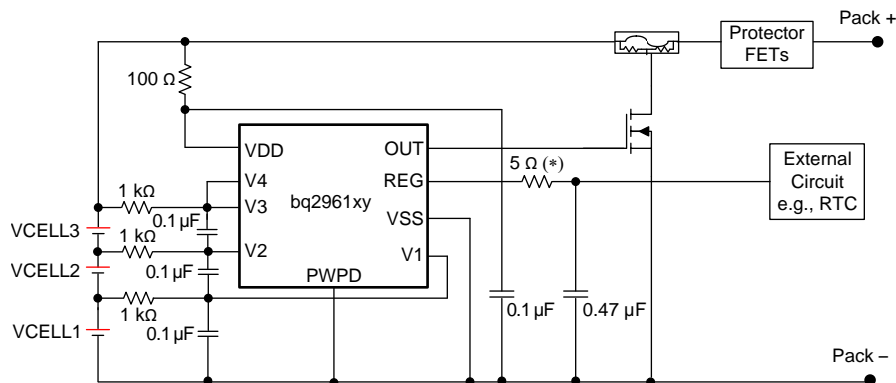
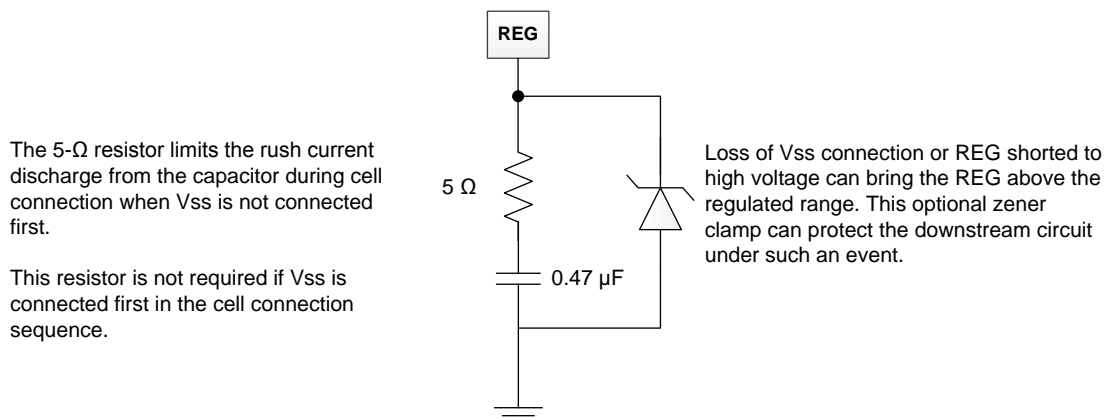

Figure 17. 3-Series bq2961 Schematic (also apply to bq2962)
Figure 18. 5-V Zener Diode
1. If VSS pin cannot be connected first, it is required to add a resistor of a minimum of 5 ohms to a maximum of 10 ohms (a 5-ohm resistor is used in the reference schematic, Figure 17) in series with the REG capacitor. When VSS is floating, the REG capacitor always charges up to the VDD voltage. When VSS is finally connected, the REG capacitor will be discharged. Adding a small resistor in series reduces the current strength and avoids any potential damage to the REG pin. The 5-ohm resistor can be placed in series with the REG connect circuit (as shown in Figure 17) or in series of the REG capacitor (as shown in Figure 18). Placing the resistor in series with the REG circuit results in a small drop of VREG (for example: max loading of 1 mA with a 5-ohm resistor will drop 5 mV on VREG), but such a connection can protect against rush current discharge from both REG capacitor or external filter capacitor connected to the REG pin. Placing the resistor in series with the REG capacitor is an alternative to avoid additional drop in VREG if the filter capacitor used by the external circuit is much smaller than the REG capacitor.
3. Cell should be connected to the lower V_n pin; the unused V_n pin should be shorted to the (V_{n-1}) pin. See Figure 17 for details.
4. A zener diode can be added to the REG pin to VSS as shown in Figure 18. This is recommended to protect the circuit connected to the REG pin if floating VSS in the field is a risk concern. When VSS is floating (during cell connection when VSS is not connected first or in system fault with BAT– wire broken), the REG voltage always pulls up to VDD. In a 4-S configuration, the REG voltage can reach approximately 16 V with VSS floating. Adding a zener diode clamps the REG voltage to a safe level for the external circuits connected to the REG pin. Having the zener diode can also protect the external circuits if REG pin is shorted to OUT pin or any other high-voltage output terminal. If a zener diode is used, TI recommends putting the diode on the battery side with the bq296xxx device to allow protection on both the REG pin as well as the circuit connected to REG under floating VSS condition. The resistor in series with the REG pin is not required in this case.